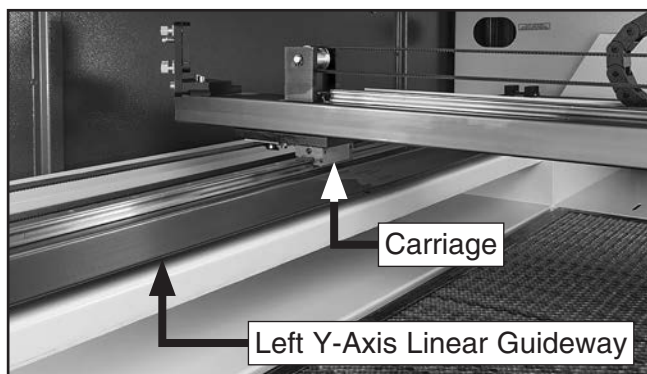

Figure 63. Left Y-axis linear guideway and carriage.
- Repeat **Steps 3–7** on left and right Y-axis linear guideways and carriages (see **Figures 63–64**).